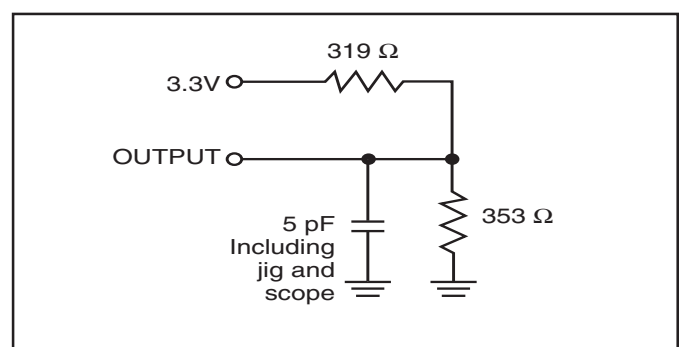

Figure 2.
- Tested with the load in Figure 2. Transition is measured ±500 mV from steady-state voltage. Not 100% tested.
3. Tested with the load in Figure 2. Transition is measured  $\pm 500$  mV from steady-state voltage. Not 100% tested.